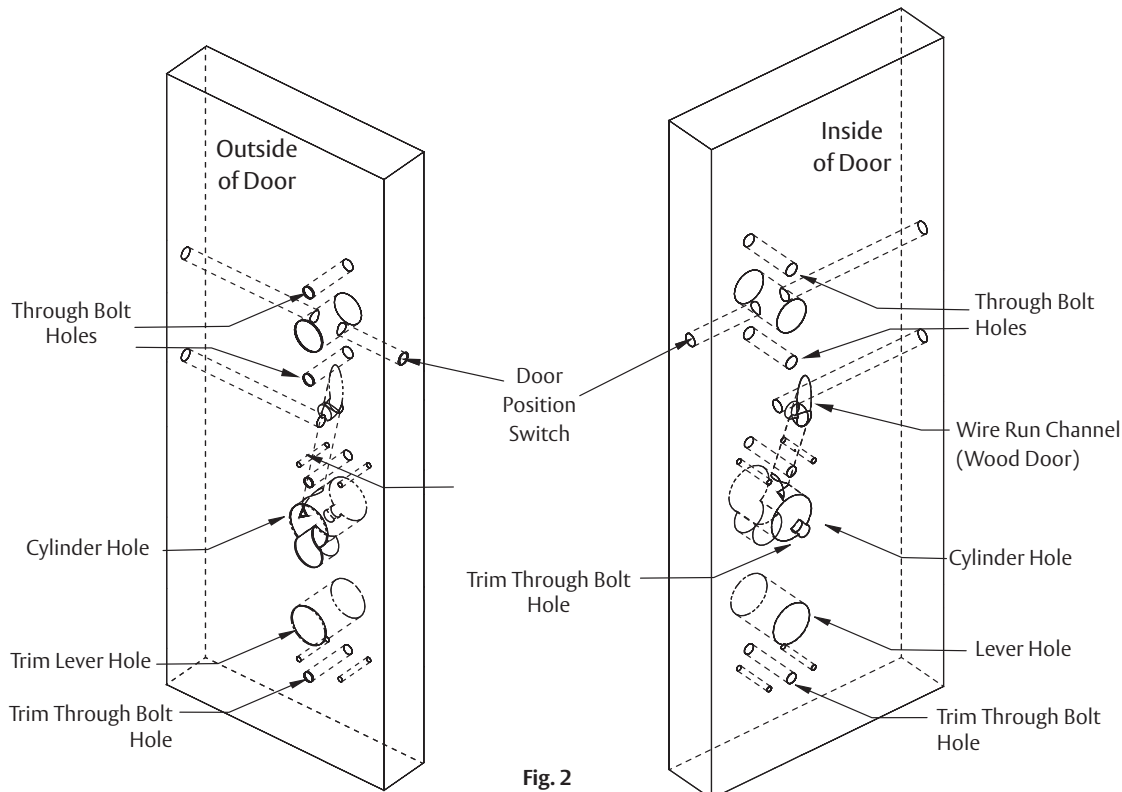

Fig. 2
- e. Mark and drill door. (Figure 2)